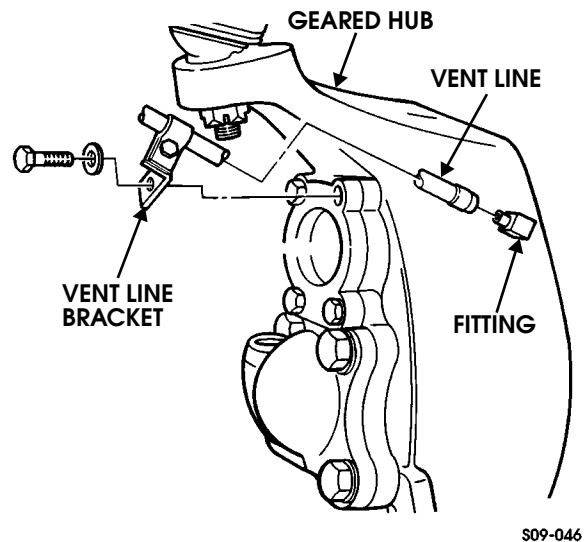

Figure 9-7: Vent Line Connection Replacement
2. Remove bolt and washer securing vent line bracket to geared hub (Figure 9-7).
6. Connect vent line to fitting (Figure 9-7).